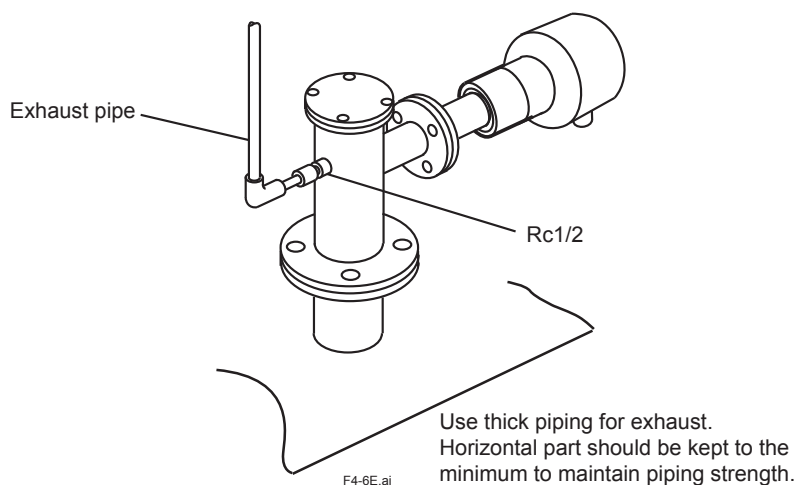

Figure 4.6 Exhaust pipe
- If a high temperature detector is used and no piping can be installed for the reference gas, place piping in the exhaust hole for the sample gas on the high temperature probe adapter so that the sample gas is carried away from the vicinity of the detector (see Section 4.1.4, "Figure 4.6 Exhaust pipe").
If the sample gas is to be vented at a distance from the detector because no reference gas piping can be provided, an exhaust pipe should be installed as illustrated in Figure 4.6. In addition, the exhaust pipe shall be kept warm to protect against condensation.